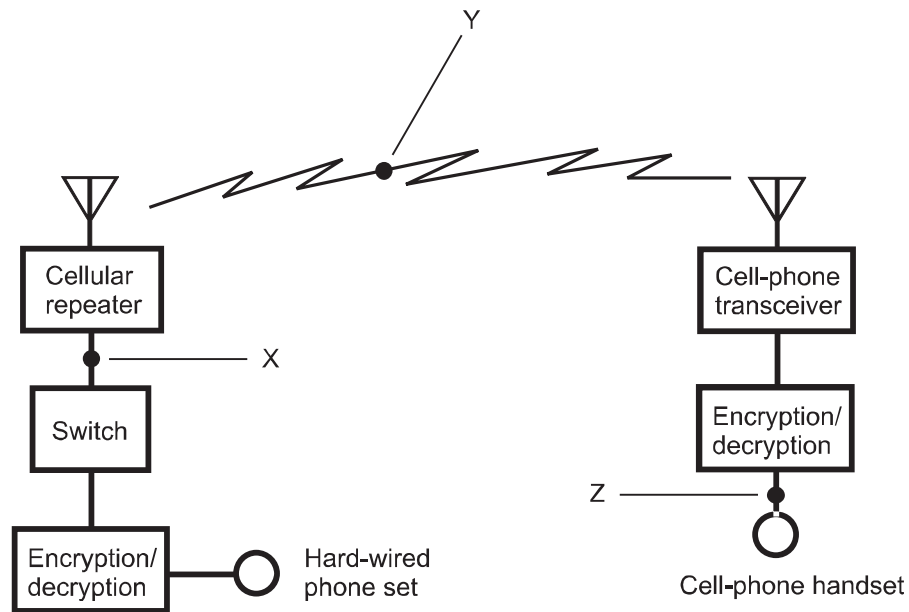

Fig. Test3-2. Illustration for Part Three Test Questions 15 and 16.
15. Figure Test3-2 illustrates
16. At what point in Fig. Test3-2 would a person with a general-coverage, wireless receiver attempt to eavesdrop on the communications?